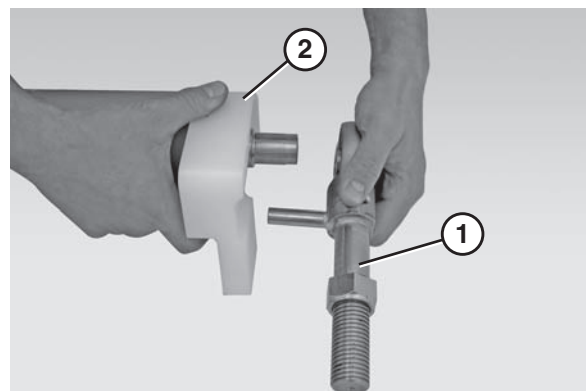

Figure 67
- Remove the bearing shafts (**Figure 67, item 1**) and both pinch guards (**Figure 67, item 2**).